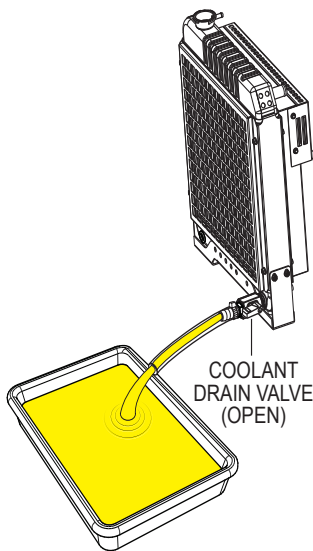

Figure 68. Draining The Engine Coolant
2. Open the cabinet door and place the **coolant drain valve** in the **OPEN** position (Figure 68) and allow the coolant to drain into a suitable container.